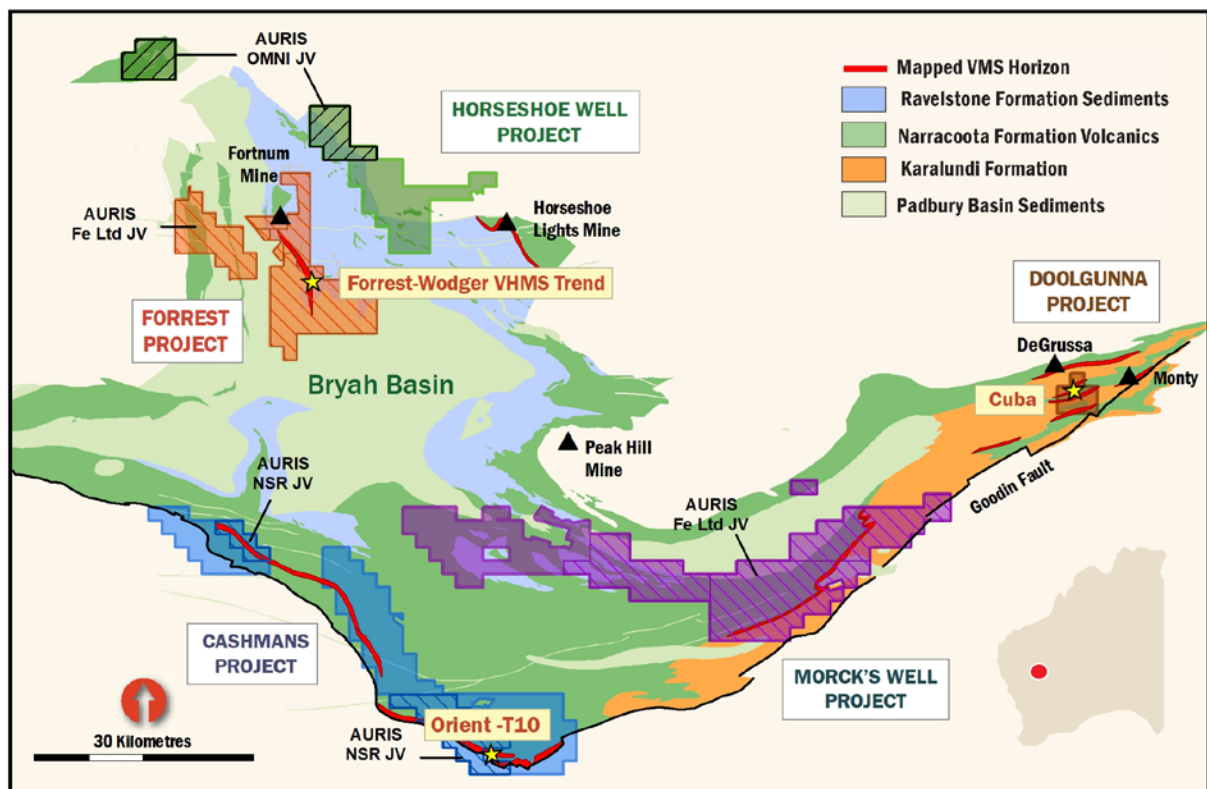

Figure 4: Auris's copper-gold exploration and mining portfolio with highly prospective target locations
Auris Minerals Limited (ASX:AUR) is pleased to announce an update to its second phase of RC and diamond drilling program at the Wodger Prospect, (part of the Company's Forrest Project¹ - ASX:AUR, Auris 80%; ASX:FEL, Fe Ltd 20%) located in Western Australia's Bryah Basin (Figure 4).
1. The Forrest Project tenements (Figure 4) have the following outside interests: